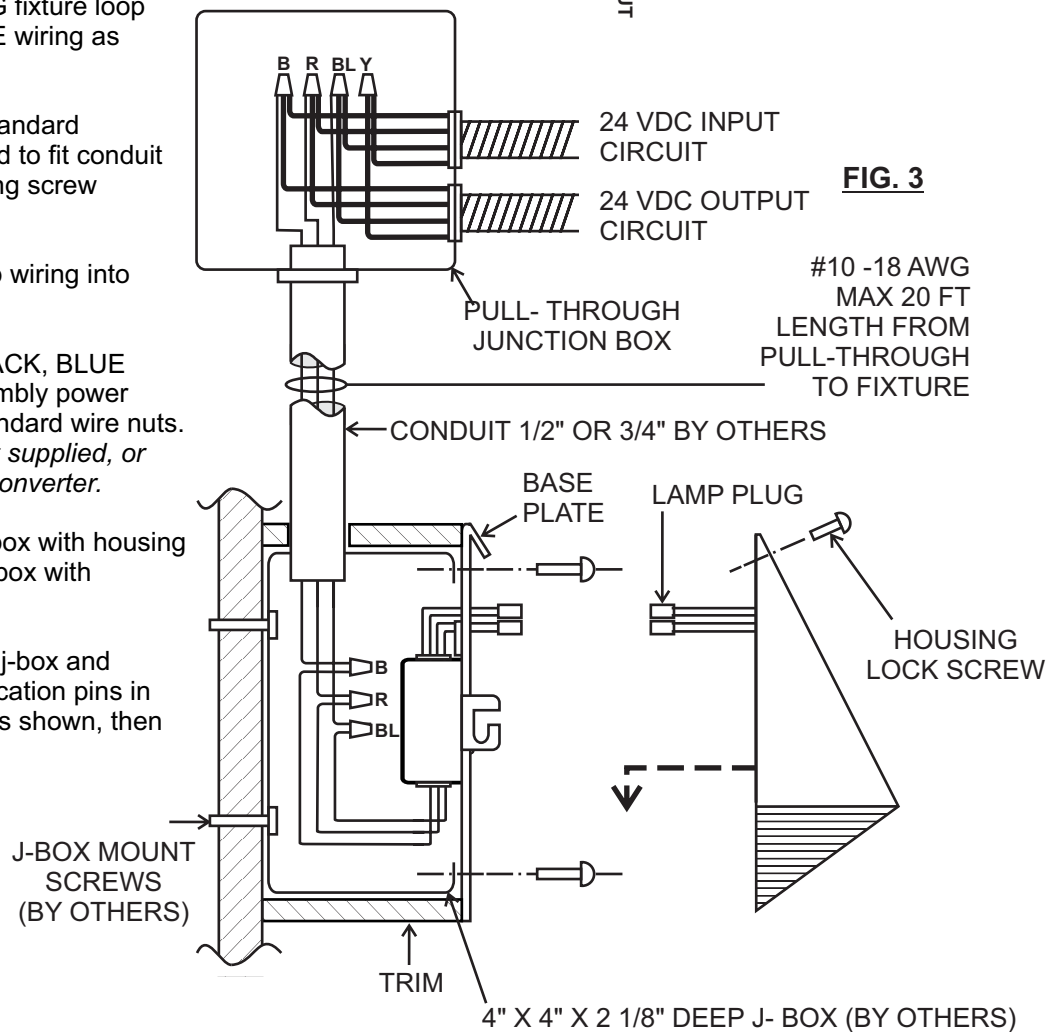

FIG. 3
1. Install pull-through j-box as shown above or near fixture location, and run 24V branch circuits IN/Out as required. Connect minimum #18 AWG fixture loop conductors to BLACK, RED and BLUE wiring as shown in fig.3..
5. Place base plate assembly on to j-box with housing lock screw tab on top and secure to j-box with (2) #8-32 screws.